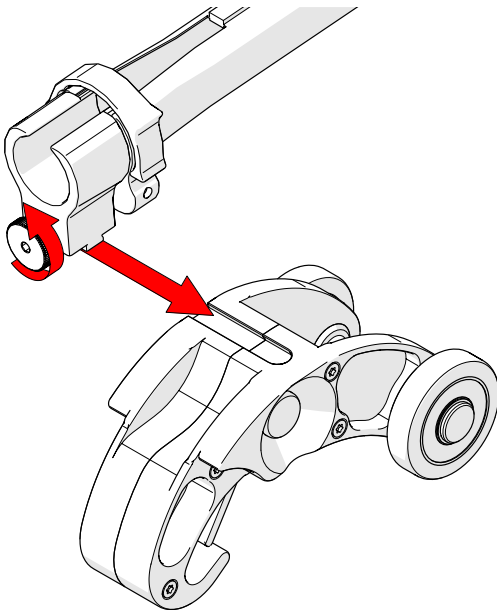

Fig. 148 - Loosen and slide on
1. Loosen the knob on the cable management dovetail mount. Slide the mount onto the heavy duty dovetail QuickLink (*Fig. 148*).